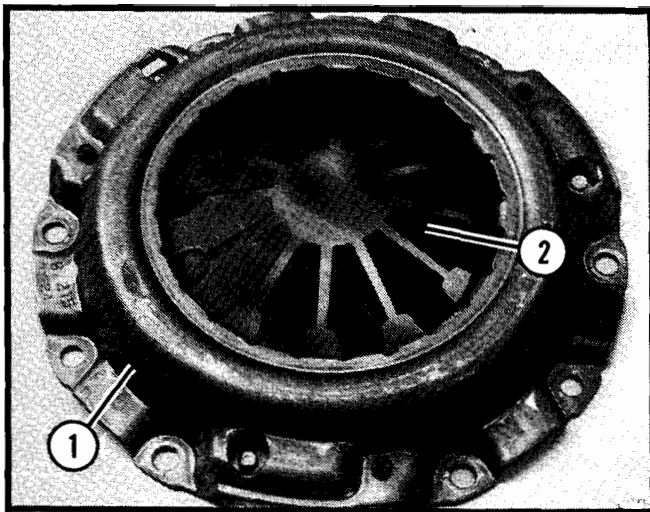

Figure 2.
2. Check the clutch cover spring levers for wear or damage. See Figure 2.